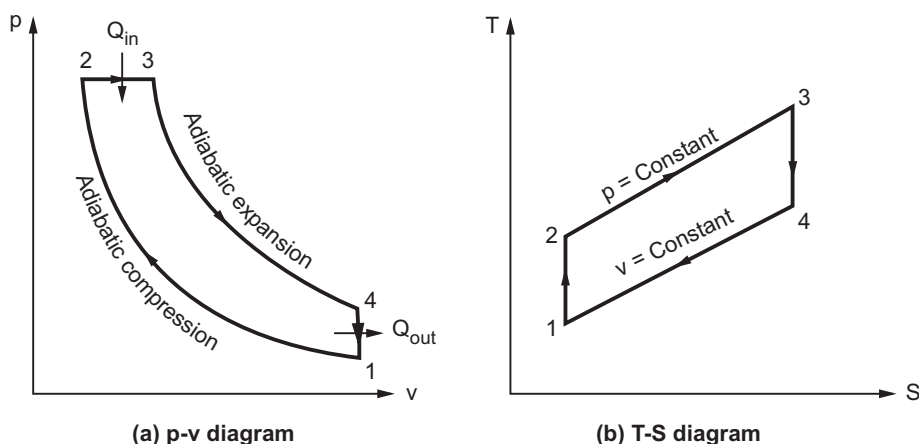

Fig. 4.7 : Diesel cycle
- Hence, the Diesel cycle is sometimes referred as constant pressure cycle. Refer Fig. 4.7.